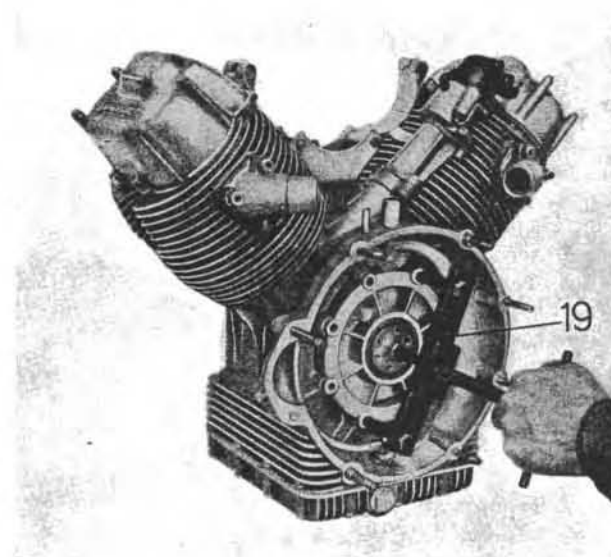

Fig. 16
- flange c/w main bearing, flywheel side, after flattening lock plates and unscrewing bolts securing flange to crankcase. Then, by means of tool No. 12913600 (see 19 on Fig. 16) remove flange c/w main bearing from crankcase.